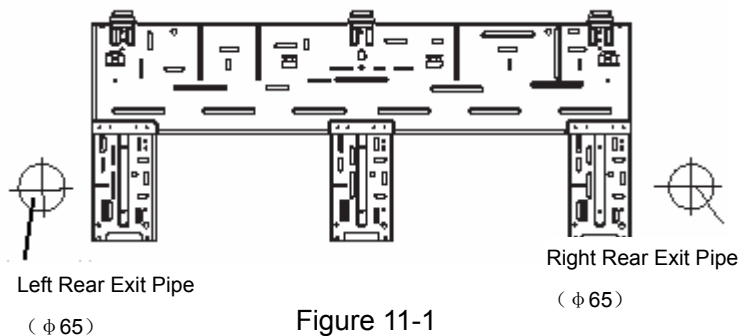

Figure 11-1
- After deciding the hole position of the fitting pipe according to Figure 11-1, drill a declining hole (Φ65) ;